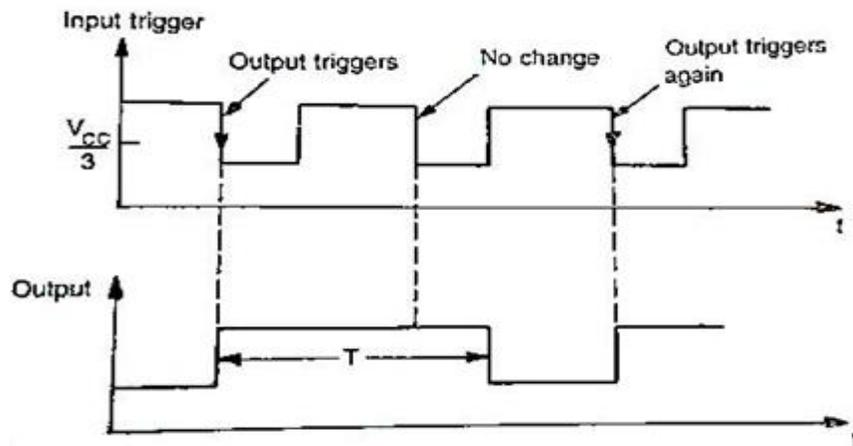

Figure 12: Frequency divider waveform
- The monostable multivibrator will be triggered by the first negative going edge of the square wave input but the output will remain HIGH (because of greater timing interval) for next negative going edge of the input square wave as shown in Fig. 12.